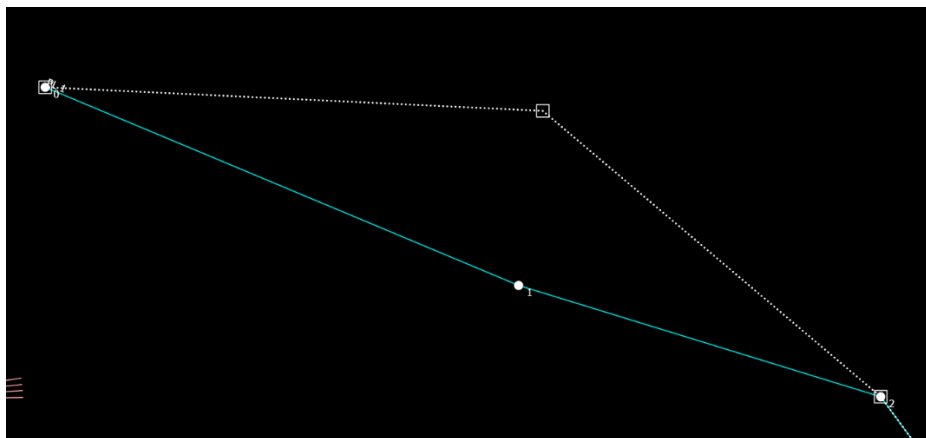

FIGURE 9-23 PIPELINES – MAP EDIT – PIPELINE NODE GRIPS
**Note:** In addition, the pipeline nodes are highlighted with grips which can be selected and dragged (see Figure 9-23)